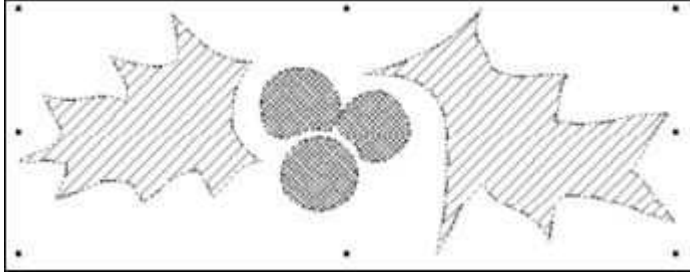

Figure 6
- 6 You will now have the familiar Shading Parameters Dialogue Box, move the slide towards fine, see Figure 8. Click On "OK", the Click somewhere inside the holly berries. the results should be similar to, Figure 6.